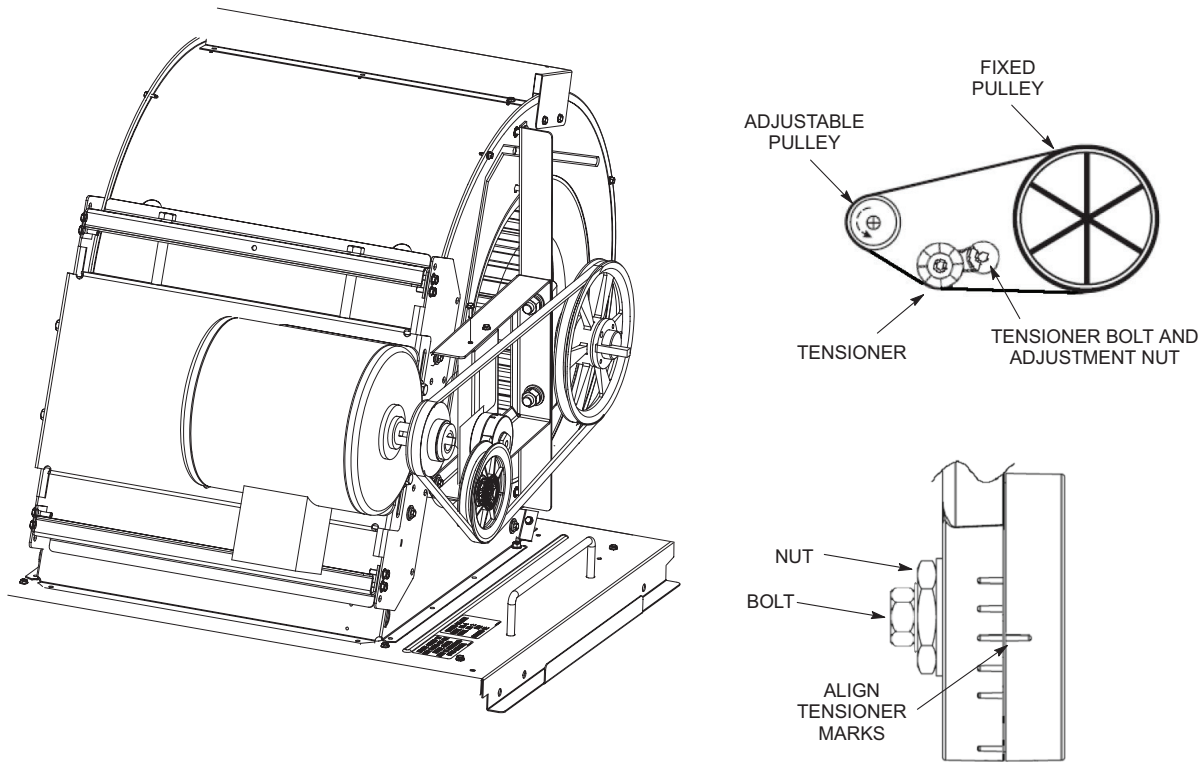

FIGURE 14
- 1 - Loosen the bolt in the center of the tensioner. See figure 14.
- 3 - Using a 15/16" wrench, turn the tensioner nut until marks align as shown in figure 14.